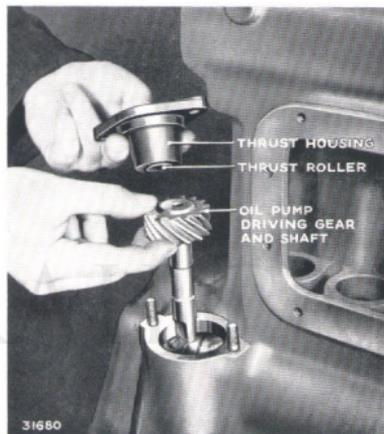

Fig. 14. Fitting oil pump drive gear and thrust housing (engine in stand).
3. To inspect the oil pump driving gear. Remove the thrust housing at the rear under side of the engine block and withdraw the gear (Fig. 14). Backlash between the two gears should be .004 in. to .008 in. (.1016 mm. to .2032 mm.).